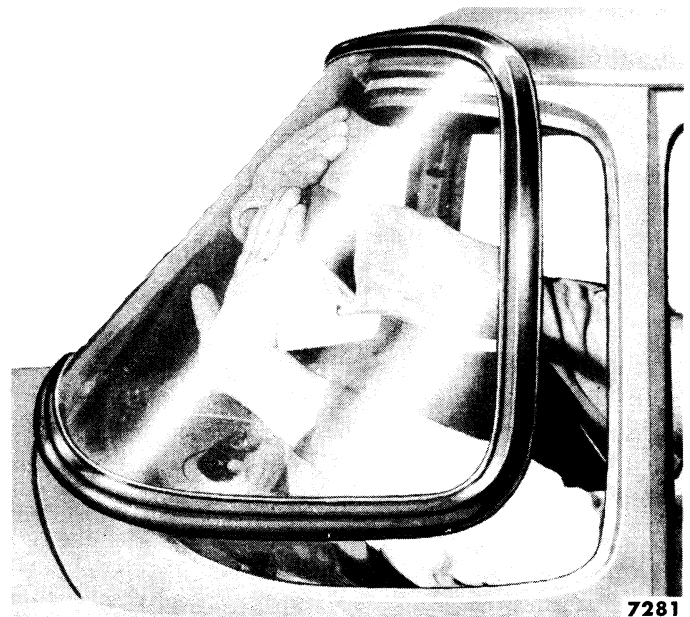

Fig. 36—Windshield Removal
(2) **REMOVAL.** Loosen the inner side of the weatherstrip around the body flange, and apply pressure, with the flat of the hand, at the upper inside corner of the windshield (fig. 36). After the glass is out at the corner, continue to apply pressure, working toward the center, until the glass is completely off the body flange. Remove the trim mouldings from the weatherstrip (if so equipped). Remove the glass from the weatherstrip.